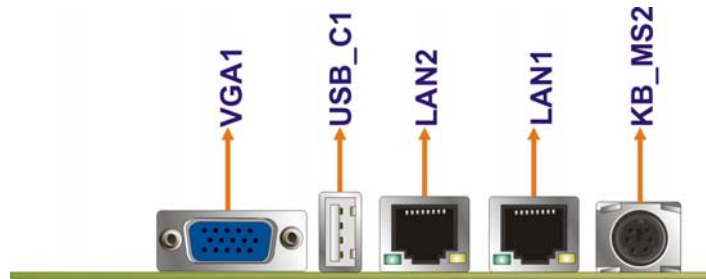

Figure 4-19: PIC0e-945GSE External Peripheral Interface Connector
Figure 4-19 shows the PIC0e-945GSE external peripheral interface connector (EPIC) panel. The PIC0e-945GSE EPIC panel consists of the following:
- CN Location: See **Figure 4-19**
CN Location: See **Figure 4-19**
CN Location:	See Figure 4-19